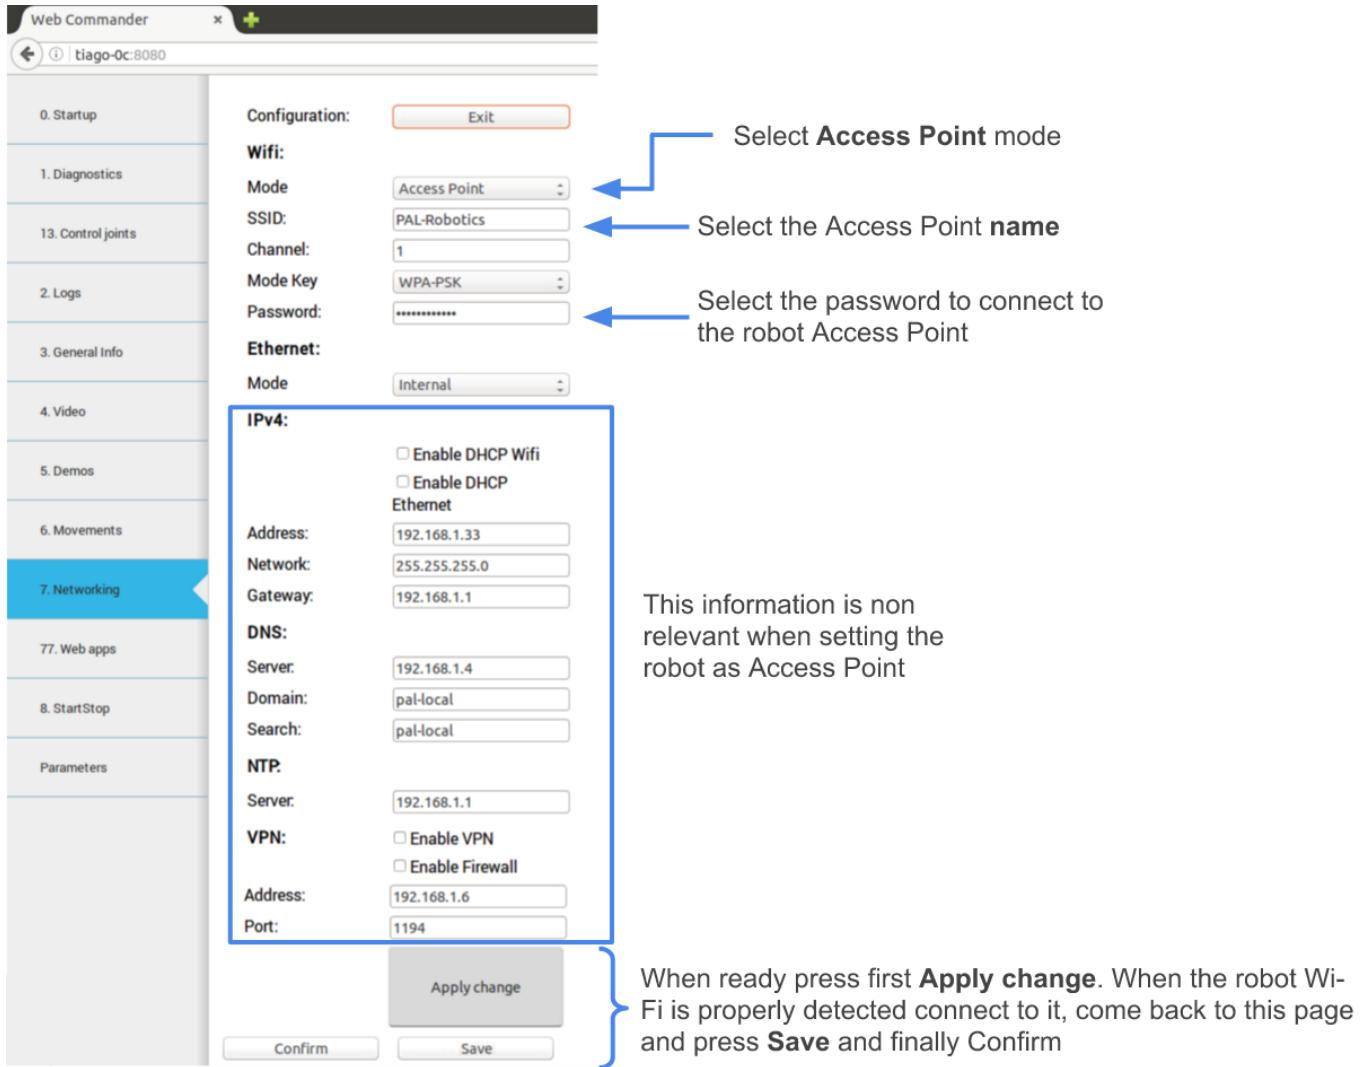

Figure 44: Configuring TIAGO as Access Point
**Setting TIAGo as an Access Point** In order to configure TIAGo as access point open the WebCommander via the URL <http://tiago-0c:8080> and go to the Networking tab. Press *Enter* button and then follow the instructions shown in figure 44.